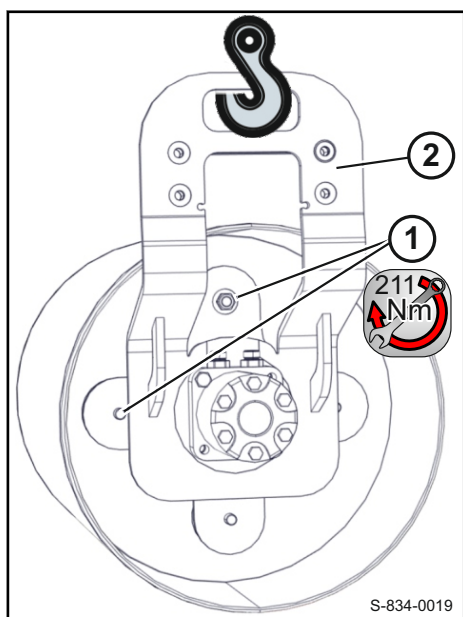

Fig. 252
5. Mount support leg 2 ↗ Fig. 252 with travel motor and drive disc to the drum.